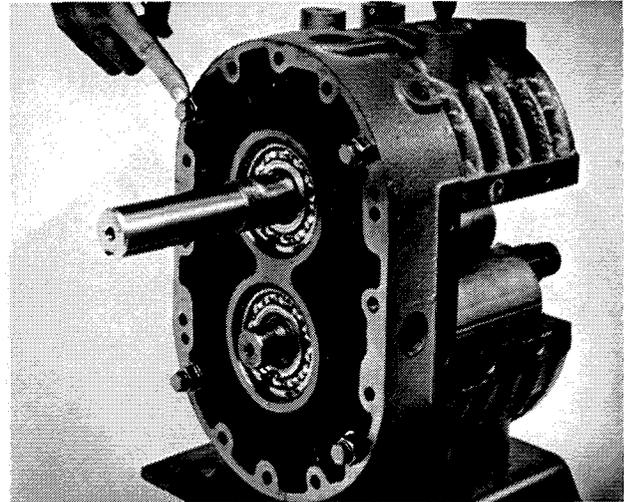

FIGURE 21
- j. Install the upper housing half to the drive end plate. Ferrule with "O" ring must mate with counterbored hole in end plate. Secure with two cap screws (18) using a 1/2-13 nut spacer under the head of each cap screw (see Fig. 21). Torque cap screws to approximately 30 ft-lb [3.9 mkg].